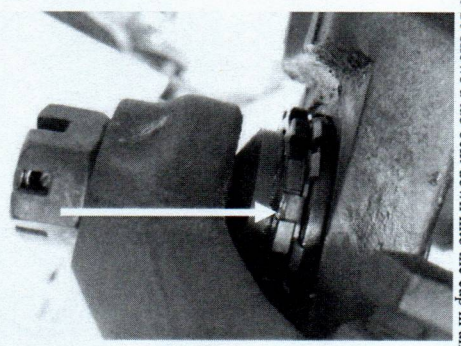

Figure 16. Tab Bent Into Cap
24. With the joints preloaded, bend down two tabs from the lock ring into the cap. Be sure the tabs bent down will be accessible when the vehicle is re-assembled and back on the ground. If the tabs do not align with slots on the cap be sure to tighten the cap in order to make them align. Do not loosen the cap to align the tabs. **Figure 16** shows a tab bent down into the cap in an accessible location.